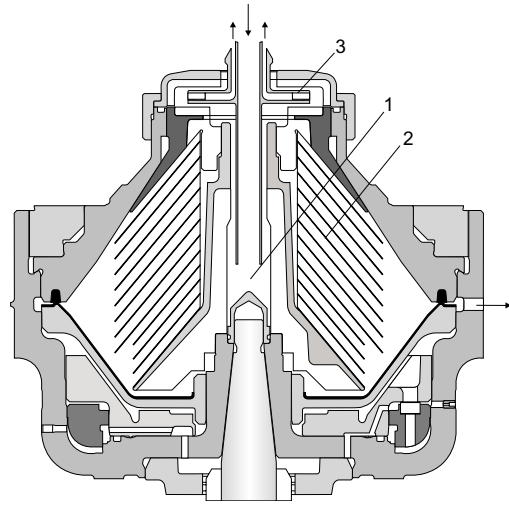

Fig. 1 Bowl principle
The special geometry of the bowl (Fig. 1) ensures gentler acceleration for shear-sensitive agglomerates and particles (1). Combined with a new patented disc stack design (2), these significant improvements of the fluid dynamics lead to maximum separation efficiency, at the same time as reducing power consumption. The new paring disc design (3) reduces oxygen pickup to a minimum, as well as preventing loss of volatile aromas or CO₂. CLARA 80 is also available in a hermetically sealed version with a seal mechanism that makes it possible to clarify sparkling wines under pressure.